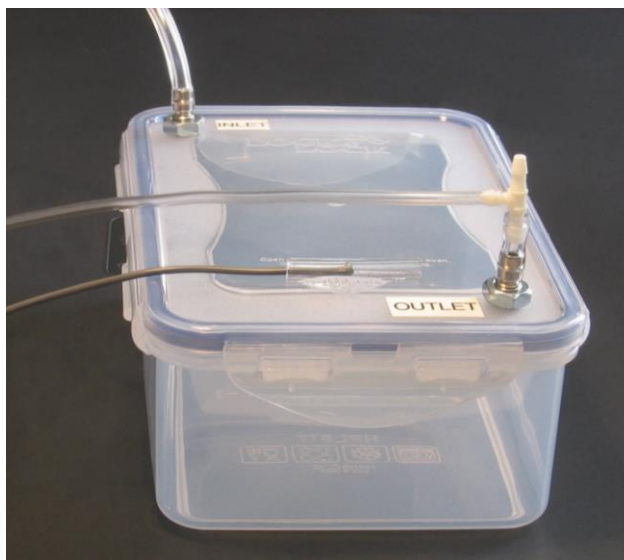

Figure 2: Mouse cage showing airflow & sample connections, and thermistor probe attachment
3. Connect your fresh air source (air pump, gas tank, etc.) to the **FRESH AIR INLET** on the rear panel. Connect the **FLOW TO CAGE** port to the **INLET** port on the measurement cage. Use 1/8” ID tubing for these connections. See Figures 2 and 4.